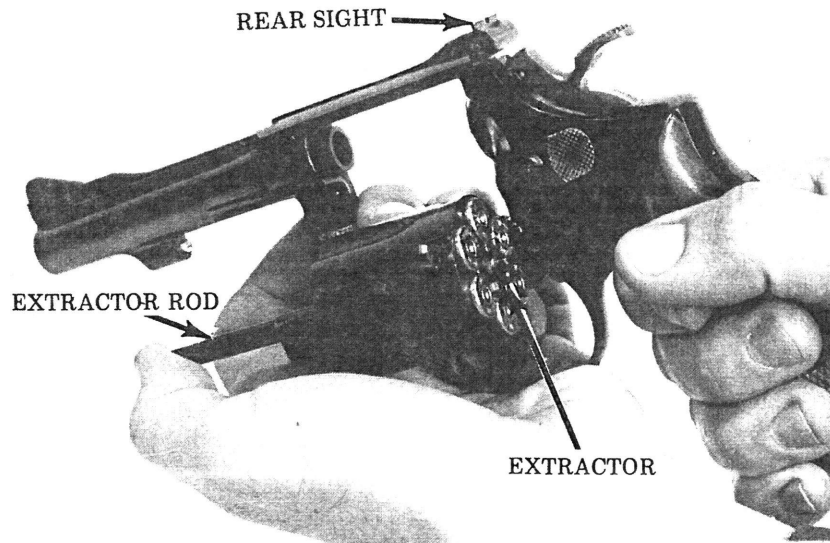

Figure 4-3. Unloading Empty Cartridge Cases from Cylinder by Depressing Extractor Rod
4-13. If the weapon has been fired previously, press in on the extractor rod to extract the cartridge cases. (See figure 4-3).
c. Press in on extractor rod and carefully remove the cartridges. (See figure 4-3.)
Remove cartridges from cylinder	Figure 4-3